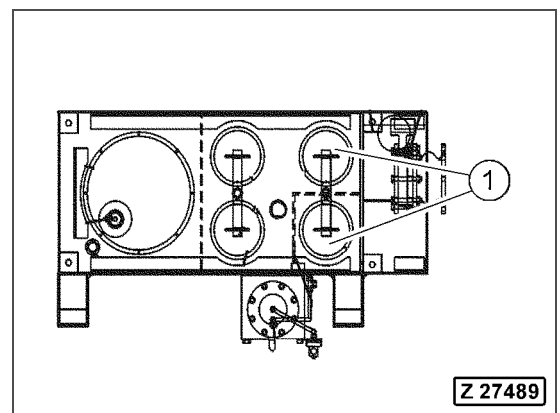

Fig. 3-47
- Open the cover (Fig. 3-47, Pos. 1) of the return oil filter.